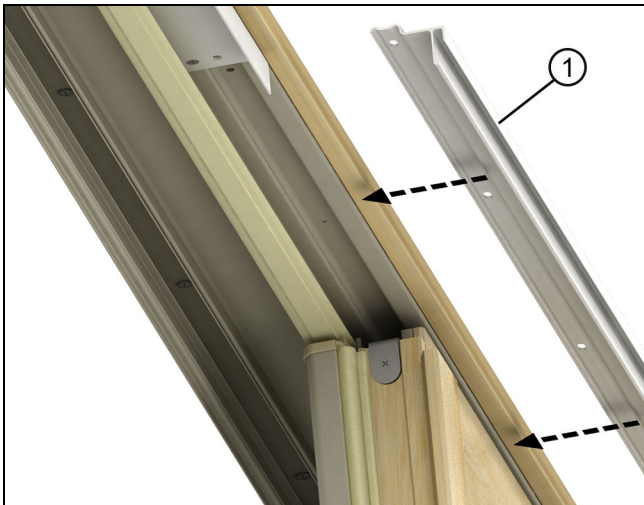

Figure 15
2. Be sure the panel rollers are at the lowest setting to allow clearance of the panel guide. Slide the aluminum panel guide in above the panel and start fastening from the jamb with the provided 5/8" (16) truss head screws. See figure 14. With the operator panel in the closed position, install a #8 x 3" screw through the hole closest to the operator panel. See Figure 15.